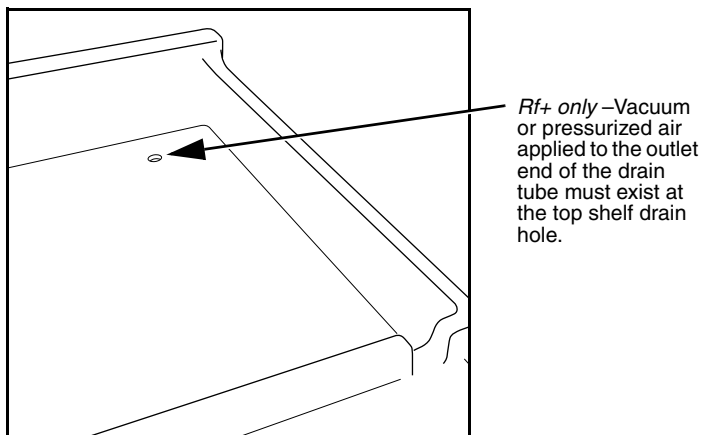

Figure 2-5 Top Shelf Drain
2. (Rf+ only) Test the top shelf drain by connecting a vacuum or air supply source to the outlet end of the drain tube. Then, verify the presence of such vacuum or air supply source on the drain (Figure 2-5).